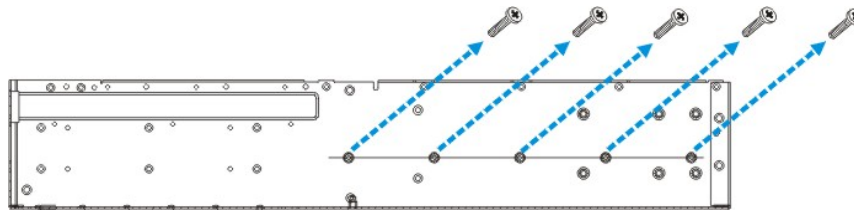

Figure 2-3: Enclosure Side Mounting Holes (2)
- **Figure 2-3** shows holes that are designed for slide rail options. There are five (5) mounting holes for #6-32 screws on the sides of the enclosure for use with slide rails purchased separately from us or other vendors.